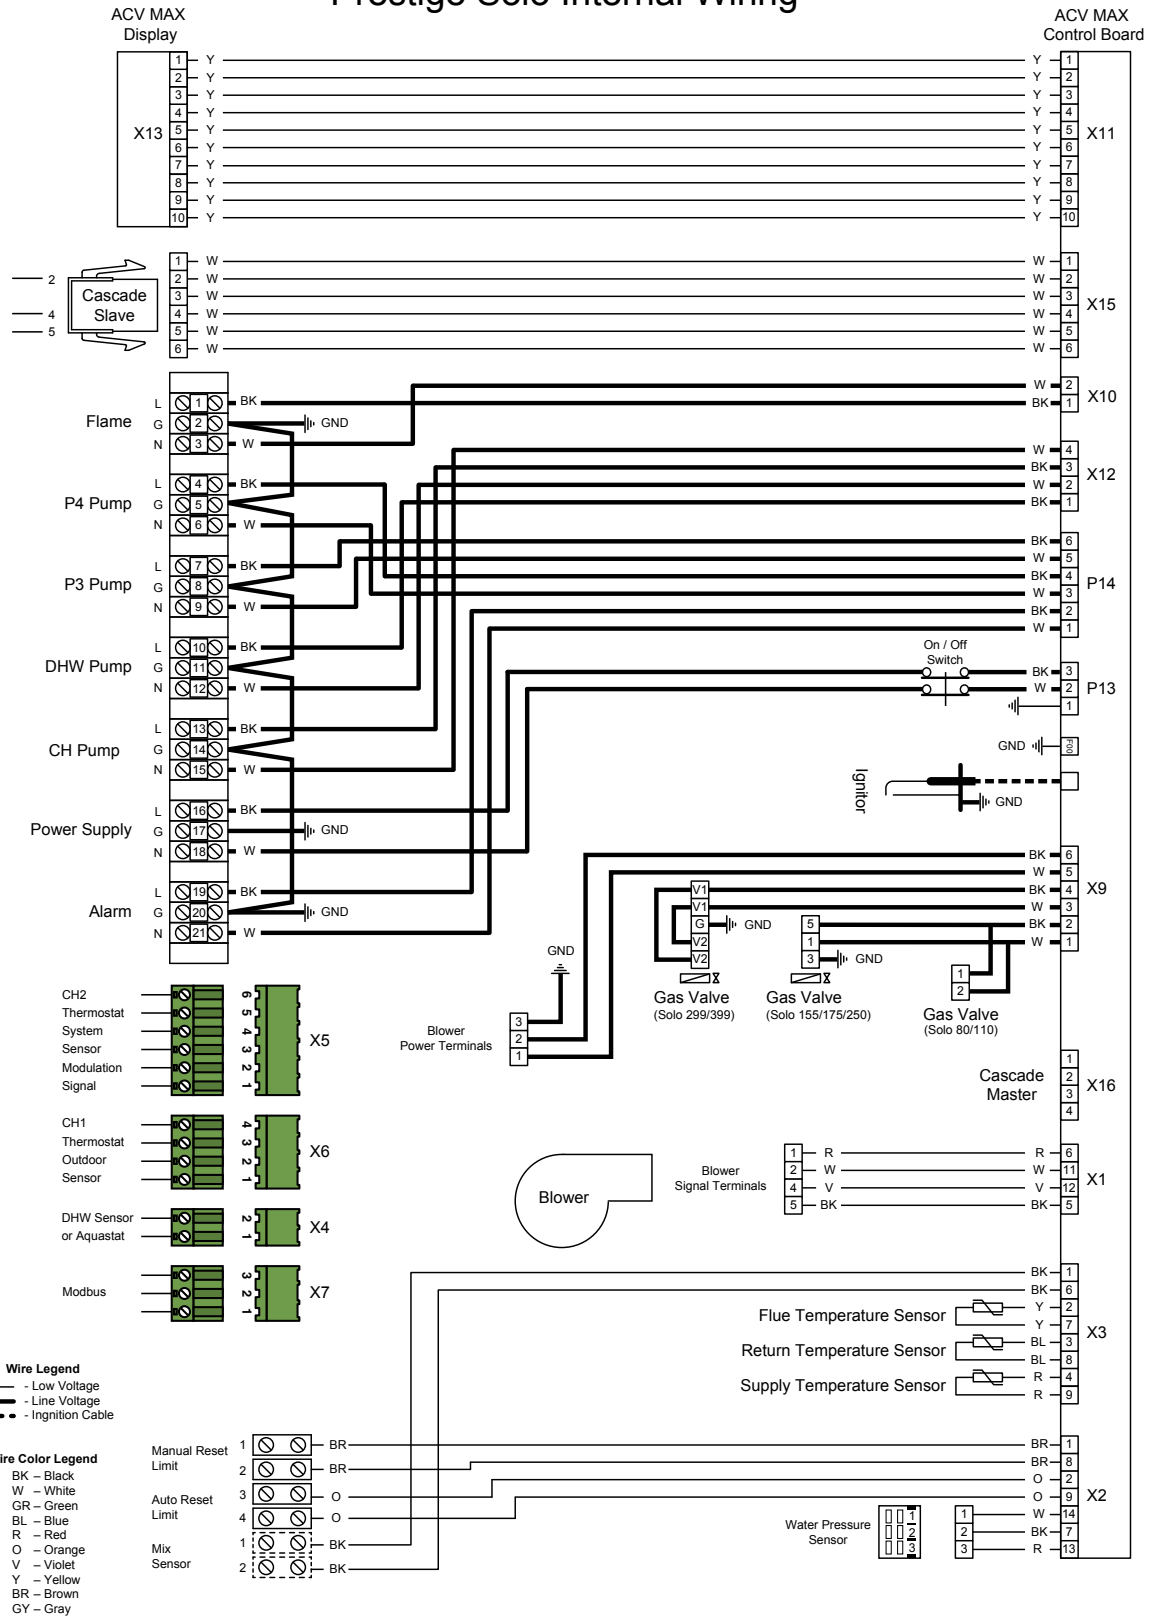
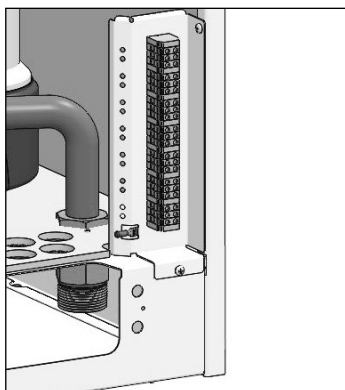

Fig. 20: Prestige Solo Boiler Factory Wiring
Figure 21: Terminal Strip Location
1. Connect a dedicated 120 VAC/15A service to the line voltage terminal on the terminal block, Fig. 20 on page 31, located internally in the lower right corner, as shown in Fig. 21.
2. Connect the CH circulator to the line voltage terminal on the terminal block, Fig. 20 on page 31, located internally in the lower right corner, as shown in Fig. 21. This circulator is typically used as the primary/boiler circulator to supply heat to the central/space heating loop.
3. Connect the DHW circulator to the line voltage terminal on the terminal block, Fig. 20 on page 31, located internally in the lower right corner, as shown in Fig. 21. The DHW circulator is enabled during a DHW call. This circulator is typically used to supply heat to an indirect hot water heater.
4. Connect the P3 circulator to the line voltage terminal on the terminal block, Fig. 20 on page 31, located internally in the lower right corner, as shown in Fig. 21. This circulator is typically used to circulate water in the
5. Connect the P4 circulator to the line voltage terminal on the terminal block, Fig. 20 on page 31, located internally in the lower right corner, as shown in Fig. 21 on page 32. This circulator is typically used as a dedicated circulator to a second space heating zone.
1. Connect the external monitoring device to the line voltage terminal on the terminal block, Fig. 20 on page 31, located internally in the lower right corner, as shown in Fig. 21 on page 32.